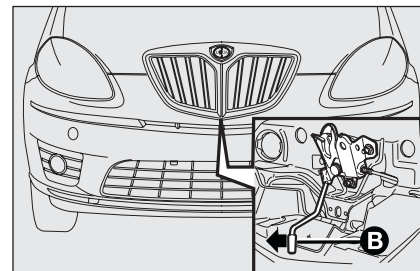

fig. 108
- ☐ move lever **B**-**fig. 108** in the direction of the arrow;